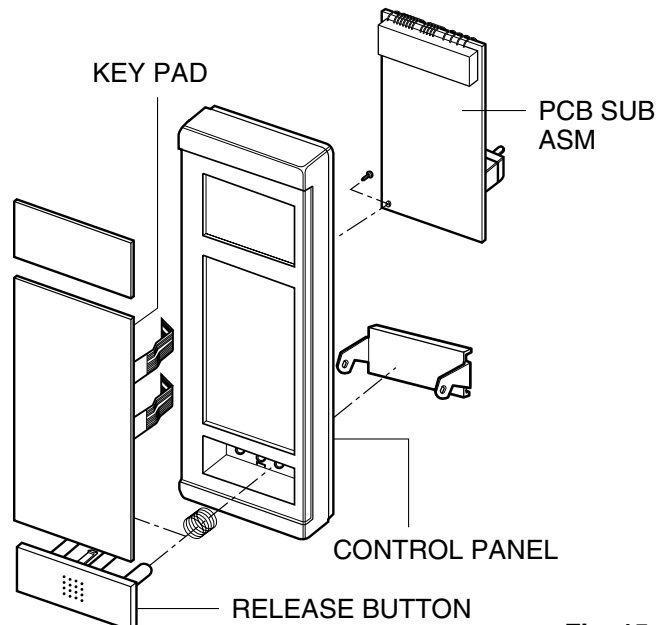

Fig. 15
B. REMOVING CONTROL PANEL ASSEMBLY AND PCB ASSEMBLY (FIG. 15)
- (1) Disconnect the wire leads (from relay 3, 4), power trans connector (5-pin), thermistor connector (2-pin), temperature probe jack connector (8-pin) and I/O connector (5-pin).
- (2) Remove one screw securing the P.C.B. earth wire lead and key pad earth bend to the front plate.
- (3) Remove two screws securing the control panel to the front plate.
- (4) Lift the control panel slightly and remove from the front plate.
- (5) Remove the F.P.C. connector the terminal socket.
- (6) Remove three screws securing the P.C.B. assembly to the control panel.